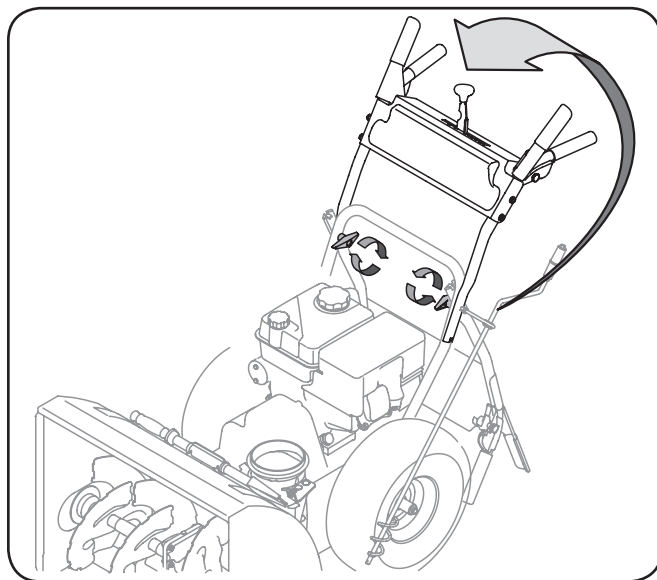

**Figure 3-16**
6. Insert chute directional control rod into rear of the chute control assembly. Secure the chute directional control rod to the chute control assembly with the hairpin clip removed earlier. See Figure 3-16.